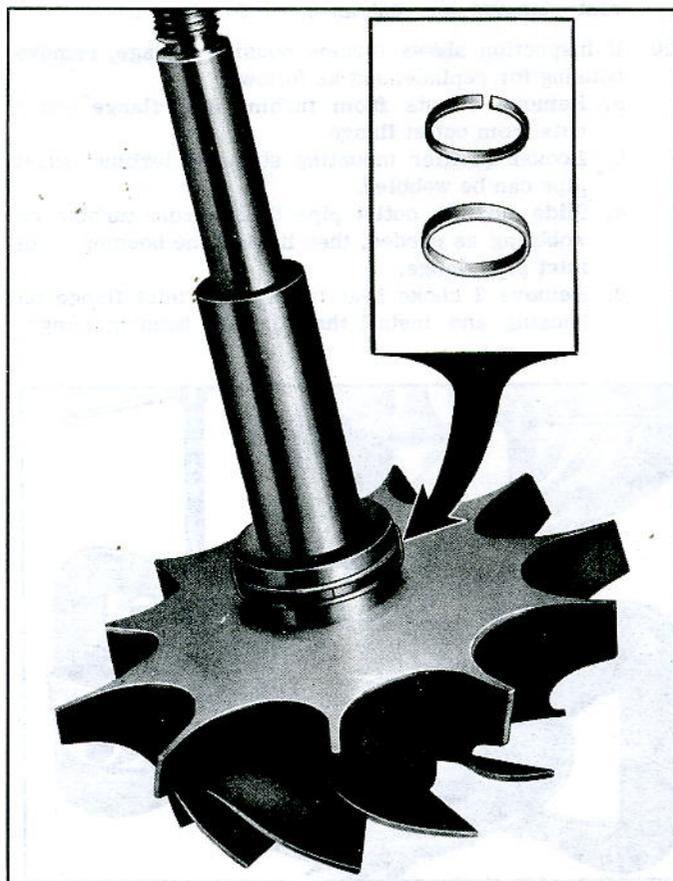

Fig. 50—Compressing Ring, Using Plastic Installer Ring
- Lubricate the turbine shaft seal ring groove with oil and install ring into groove. Compress the ring into the groove using tag wire (fig. 49) or a plastic compression ring (fig. 50). If tag wire is used, make one twist with pliers and bend the wire to form it along the curvature of (shaft and wheel back face as shown in Figure 49. (Remember direction of twist for removal.)